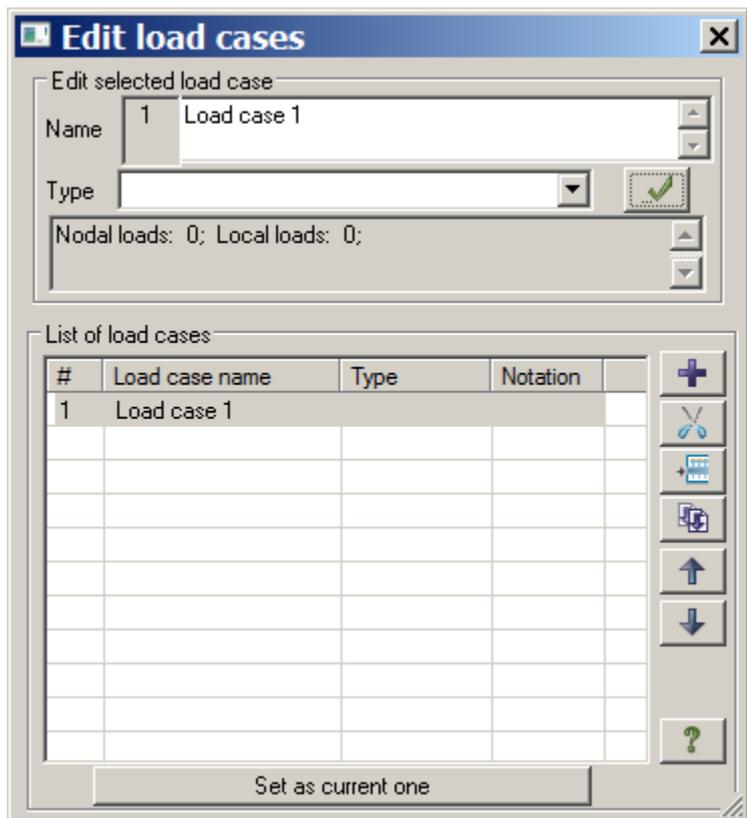

Figure 1.12 **Edit load cases** dialog box
It is allowed to define up to 300 load cases. Certain number and arbitrary name are assigned to every load case. Load case may include any number of loads. To assign number and name to a load case, on the **Create and edit** ribbon tab, select the **Loads** panel and click **Edit load cases** . In the **Edit load cases** dialog box (see Fig.1.12) specify appropriate data. When you start a program, name **Load case 1** is displayed by default.
- ⇒ On the **Create and edit** ribbon tab, on the **Loads** panel, click **Edit load cases** . The **Edit load cases** dialog box is displayed on the screen (see Fig.1.12).
As the type of load cases was defined in the **Edit load cases** dialog box (see Fig.1.12), the DCF table is generated automatically with parameters accepted by default for every load case. Now you have to modify parameters for the third and the fourth load cases.